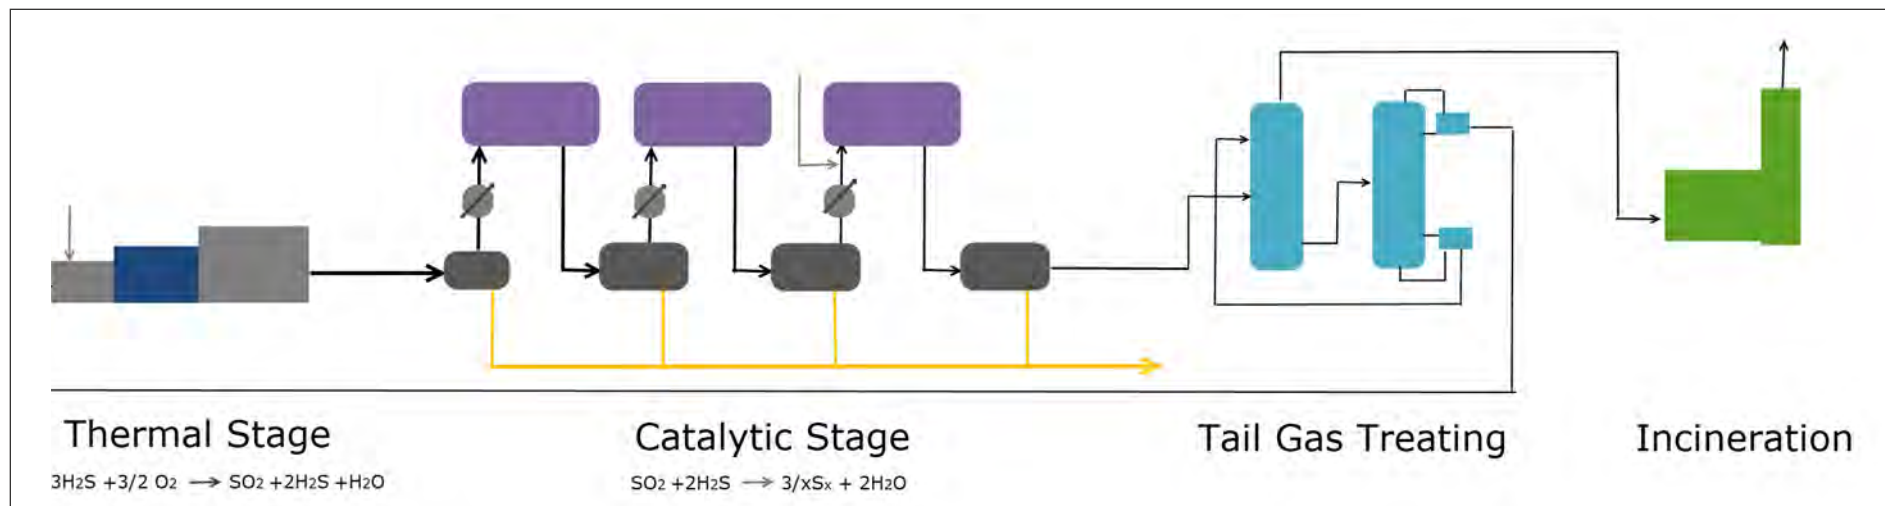

Figure 1: Sulfur recovery unit with a 2 + 1 selective oxidation catalytic section.
- A specialized sulfur recovery sub-flowsheet environment, as shown in **Figures 1 and 2**.